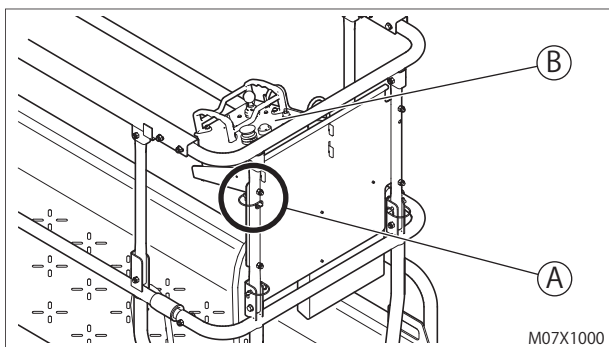

fig. 8-7
- (1) Lower the platform in the down position and lock the extension deck.
- (2) Close and lock the platform gate.
- (3) Remove the lock pin A (see fig. 8-7) that which locks the upper controls (fig. 8-7, B) to the guardrails. Remove the controls from the guardrails and lay them on the platform floor.